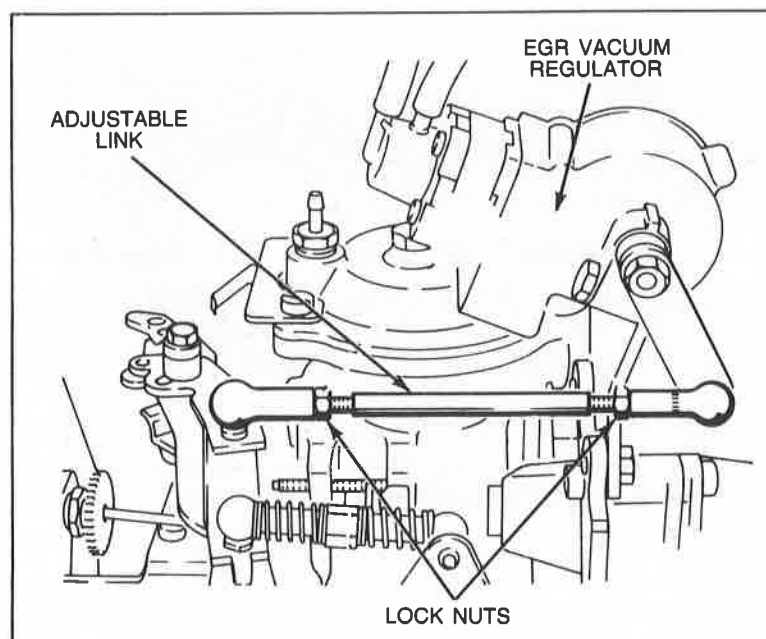

Figure 24 EGR Vacuum Regulator Link
5. If vacuum is not to specification, loosen locknuts on vacuum regulator link (Fig. 24) and adjust link until vacuum is at specification. Tighten locknuts.
6. Remove vacuum tester and vacuum gauge. Connect vacuum hoses to vacuum regulator (Fig. 24).